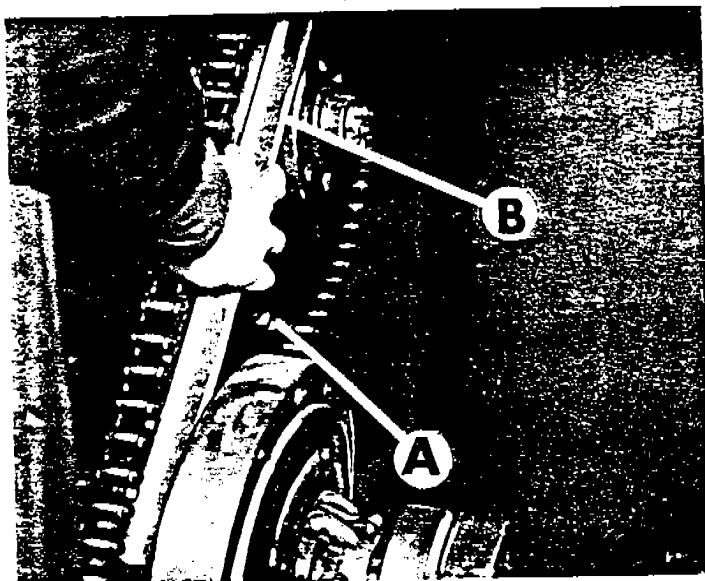

FIG. 3
The clutch bowl may now be moved on the countershaft and aligned with the driven sprocket (A) Fig. 3 by use of a straight edge (B) Fig. 3.